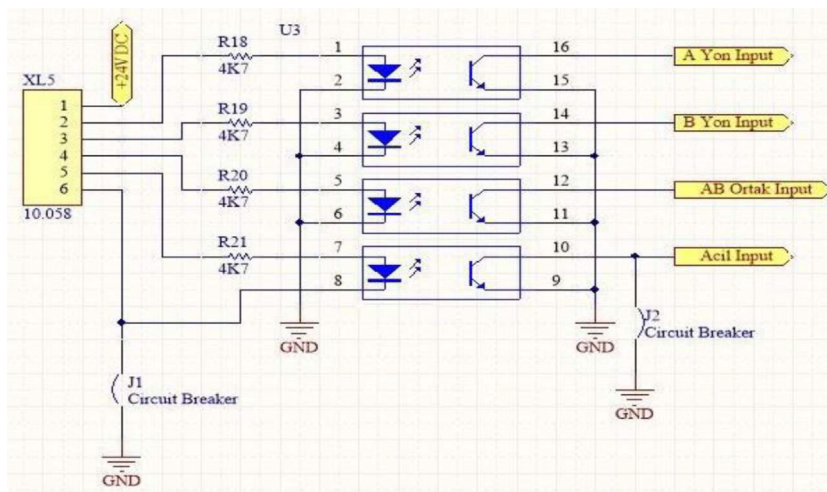

Figure 5.5 Circuit diagram of XL5 terminal.
Normally closed (NC) contact connection is required for emergency. The J2 jumper (Fig. 5.5) is inserted when the turnstile is shipped from the factory. If the alarm contact is to be used, this short circuit jumper (J2) must be removed.